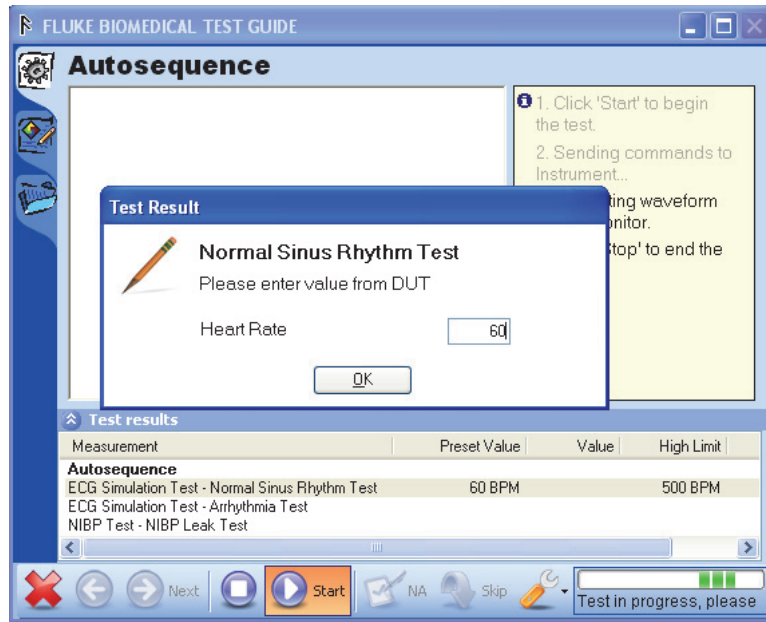

Figure 3-11. Test Results Entry for Normal Sinus Rhythm Test in an Autosequence
- At the end of the test duration, or if you click the **Stop** button to stop the test, another pop-up window shows in the display where you enter the observed value from the DUT. See Figure 3-11.